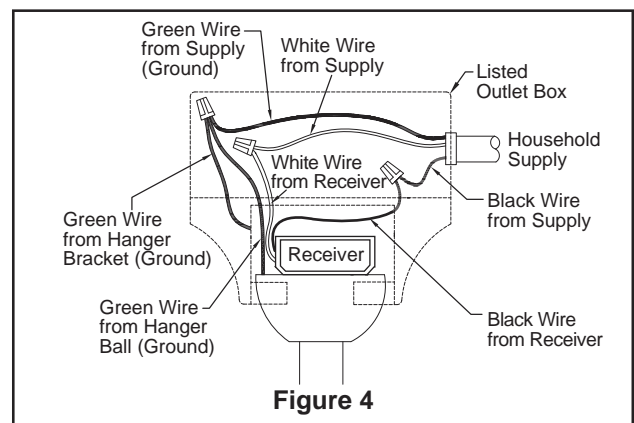

Figure 4
3. After connections have been made, turn leads upward and carefully push leads into the outlet box, with the white and green leads to one side of the box and the black leads to the other side. (Figure 4)